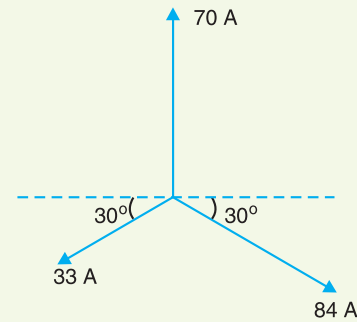

Fig. 14.16
**Lamp load alone.** If there is lamp load alone, the line currents in phases R, Y and B are 70 A, 84 A and 33 A respectively. These currents will be  $120^\circ$  apart (assuming phase sequence RYB) as shown in Fig. 14.16.